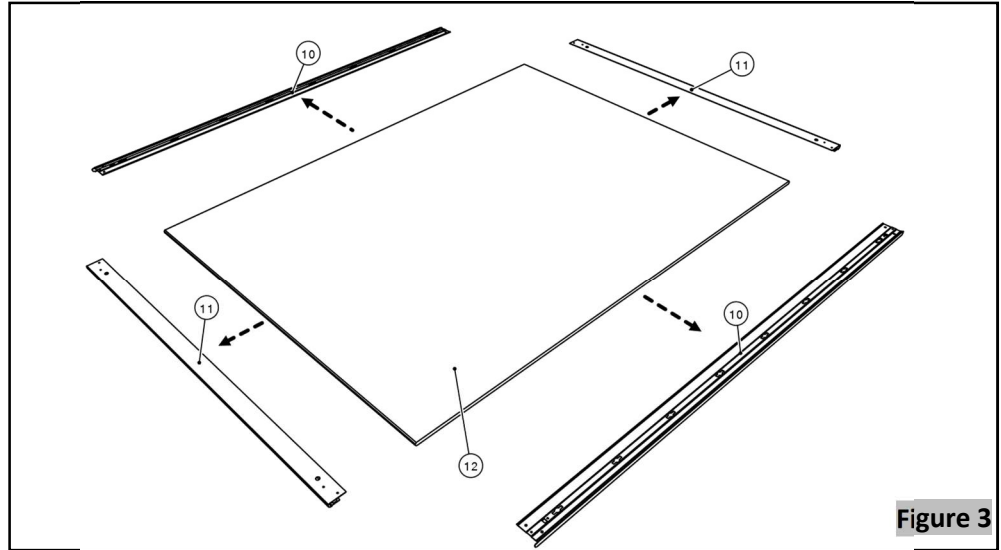

Figure 3
- 10.** Pull out the vertical tile steel frames ⁽¹⁰⁾ of the honeycomb board ⁽¹²⁾, **Figure 3** and place them in the recycle bin containing steel materials.